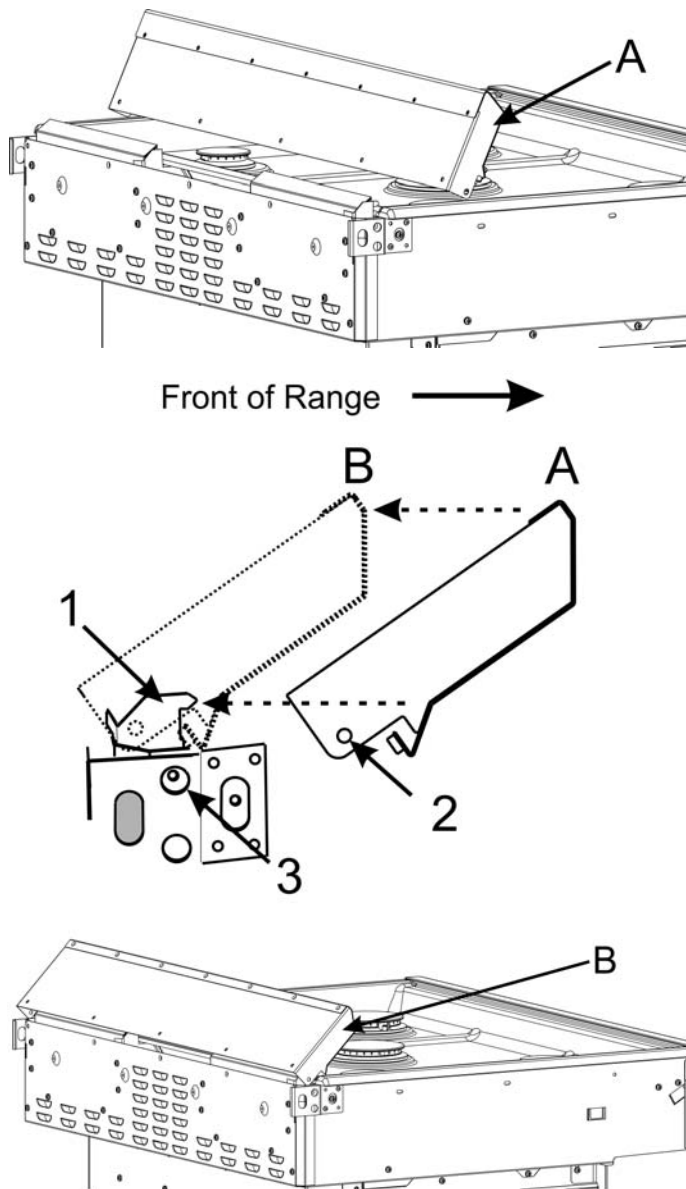

Figure 3: Low Backguard placement 1
- Place the Low Backguard in position A (See Figure 3) and then move it to position B (engaging the alignment device 1 inside the Low Backguard) (the appearance of the devices may not be exactly as shown).